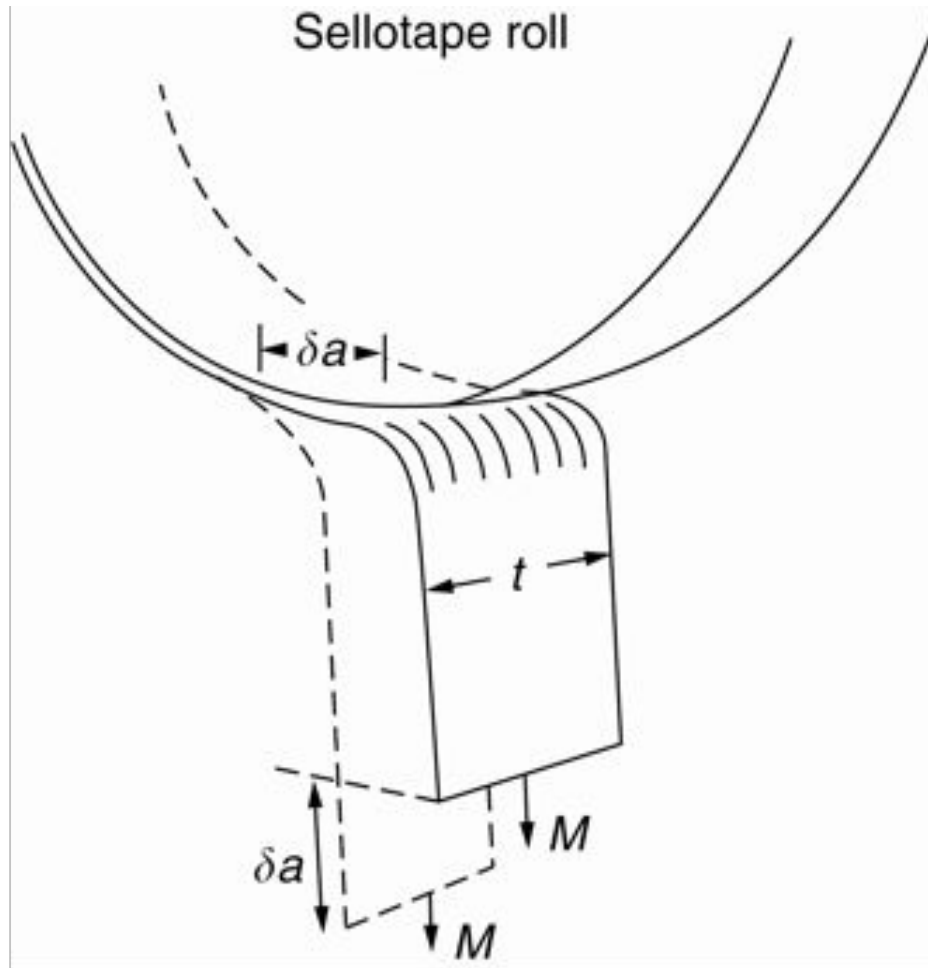

Figure 13.1
- You can measure it for the adhesive used on sticky tape (e.g., Sellotape) by hanging a weight on a partly peeled length while supporting the roll so that it can freely rotate (hang it on a pencil) as shown in Figure 13.1.